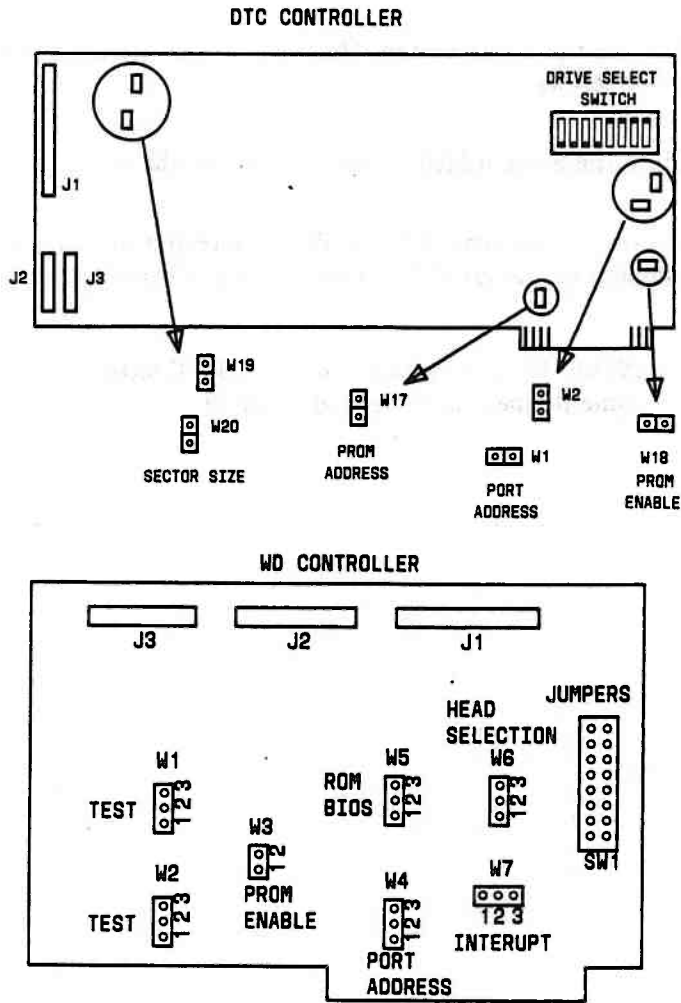

Figure 3-32. Two Types of Hard Disk Controller Boards With DIP Switch and Jumpers
7. Determine the type (DTC or WD) Controller and locate the jumpers on the HDU Controller Board (Figure 3-32).
9. Verify jumpers are present on W1 and W2 (Figure 3-32). This defines the HDU Controller port address as 320.
10. Verify a jumper is present on W17 and is not present on W18 (Figure 3-32). A jumper on W17 defines the starting address for the HDU Controller EPROM at C800:0000 and a jumper on W18 enables the HDU Controller EPROM. The HDU Controller EPROM must not be present.
11. Verify a jumper is present on W20 and not present on W19 (Figure 3-32). This sets the HDU sector size at 512 KB.
12. Locate the Drive Select Switch on the HDU Controller (Figure 3-32).
15. Verify that jumpers are present on W1, W2, W4, and W6 on the WD Controller (Figure 3-32). **ROM BIOS 1.43 or higher are required for WD controller.**